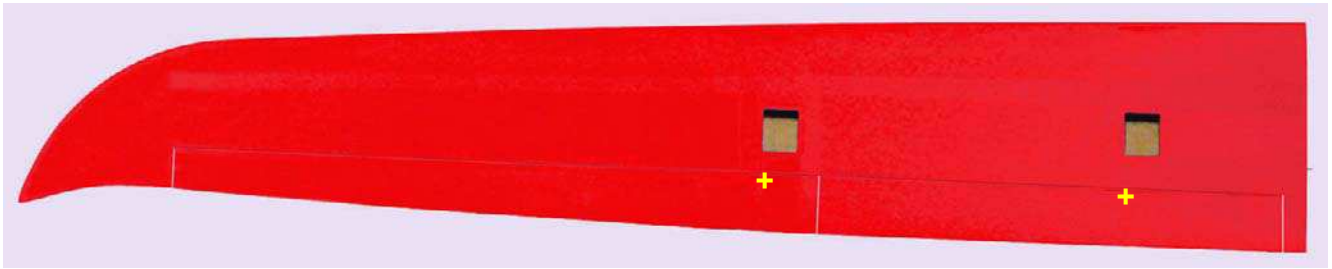

Fig.115: Position of the bushes.
- Drill **4 mm** diameter holes on ailerons and flaps in the points shown in figure 115;